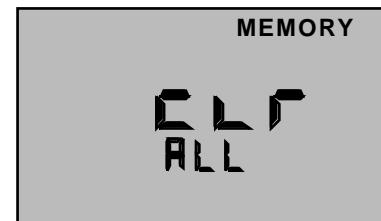

Figure 5
6. To clear all records: After pressing , scroll down to "CLR ALL" in measurement and temperature area (see Figure 5).